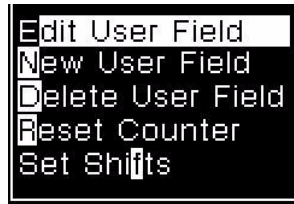

Figure 5-16: New User Field Option
- 2 Press Enter to open the User Fields menu (Figure 5-16).